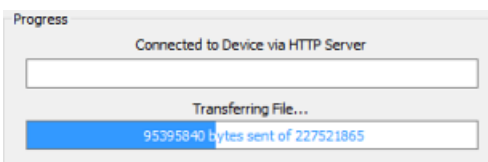

FIG. 136 NetLinX Studio - Send to NetLinX Device dialog (Progress bars indicating an active firmware file transfer)
7. Click **Send** to initiate the firmware file transfer. The progress of the transfer is indicated in the progress bars (FIG. 136):